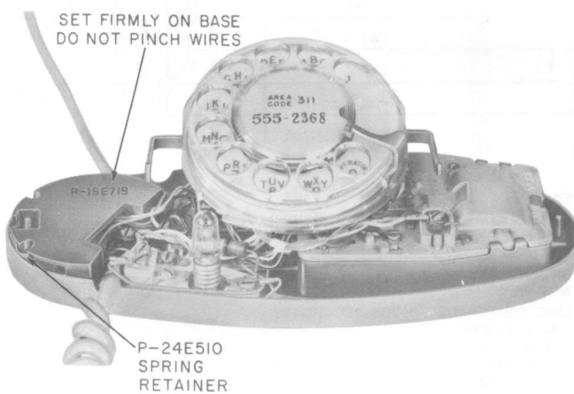

Fig. 8—Location of P-24E510 Spring Retainer and P-15E719 Weight
- (4) Install P-15E719 weight and P-24E510 spring retainer as shown in Fig. 8.
- (5) Replace telephone set housing.